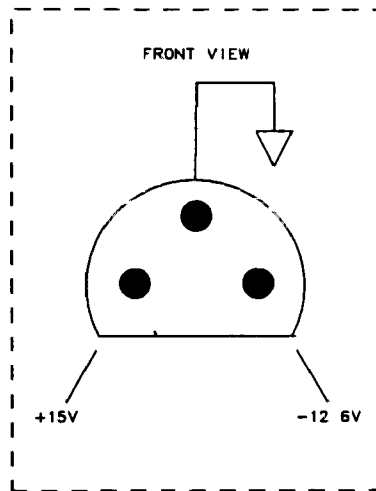

Figure 13-3. Probe Power Socket
2. Carefully check the voltages on the front-panel PROBE POWER jack. Be careful to avoid shorting the pins together. See Figure 13-3.